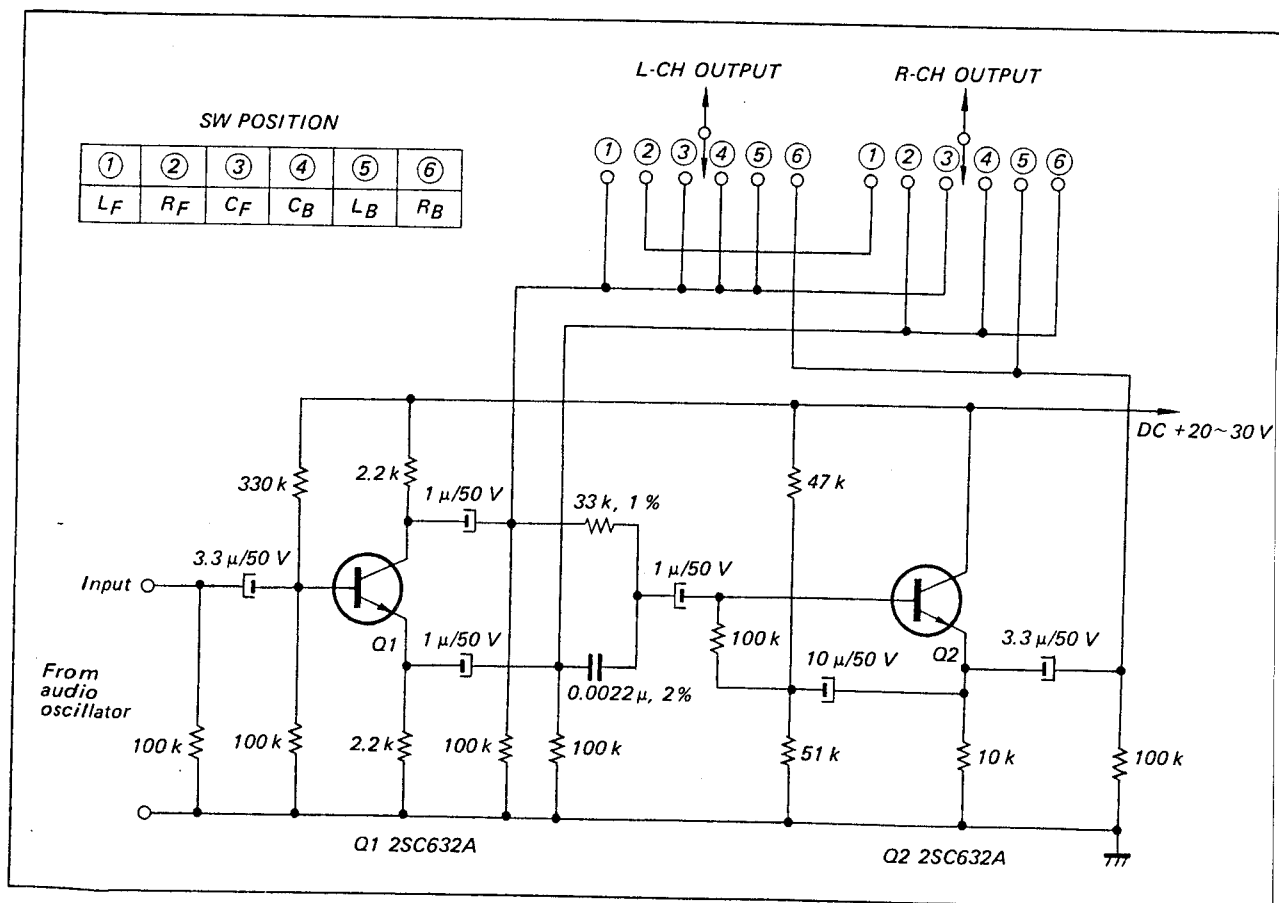

Fig. 3-1. Signal mode selector schematic diagram
The required signal modes can be produced by either of the two methods: by using the SONY SQ CHECKER Model 0005, available at each SONY Factory Service Center, or an accurate audio oscillator and the signal mode selector shown in Fig. 3-1. To obtain an accurate result with the latter method, the oscillator must be set to $2\text{ kHz} \pm 1\%$, and the precision components must be used where the schematic diagram (Fig. 3-1) indicates.
1. SQ CHECKER Model 0005 (SONY) or Audio Oscillator and Signal Mode Selector (see Fig. 3-1)